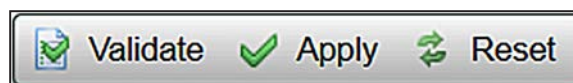

Figure 118. The Validate button.
STEP 4. When the password has been entered, click on the **Validate** button in the top right corner of the *IntelliLink* software screen. See Figure 118.
STEP 5. If the password change validates successfully, click on the **Apply** button to finish the password-change process and configure the new password on the control. See Figure 118. Go to Step 6 if the password change was not validated successfully.